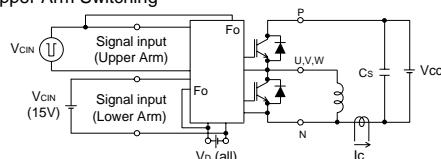

Fig. 3 Switching time and SC test circuit
| SC | Short Circuit Trip Level | —20 ≤ Tj ≤ 125°C, VD = 15V | (Fig. 3,6) | 600 | — | — | | | |
| t _{off} (SC) | Short Circuit Current Delay Time | VD = 15V | (Fig. 3,6) | — | 0.2 | — | | | |